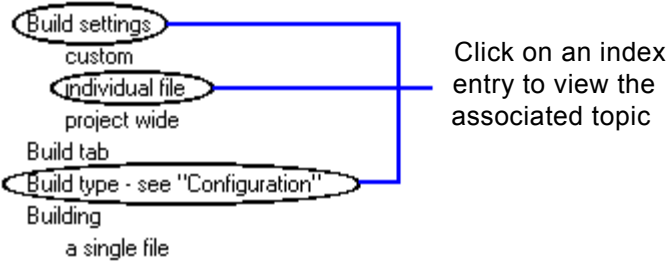

Figure A-6. Index Entries on the Index Page
- An index entry on the Index page (Figure A-6)